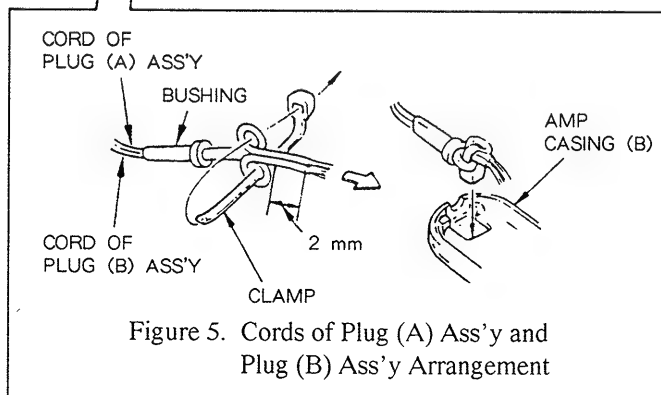

Figure 5. Cords of Plug (A) Ass'y and
- (1) Pass through the cords of the plug (A) ass'y and plug (B) ass'y to the bushing. (See Figure 5.)
- (2) Bundle the cords of the plug (A) ass'y and plug (B) ass'y by the clamp. (See Figure 5.)
- (3) Solder the lead wires of the plug (A) ass'y and plug (B) ass'y to the amp board mount.
- (4) Put the cords of the plug (A) ass'y and plug (B) ass'y in the amp casing (B).